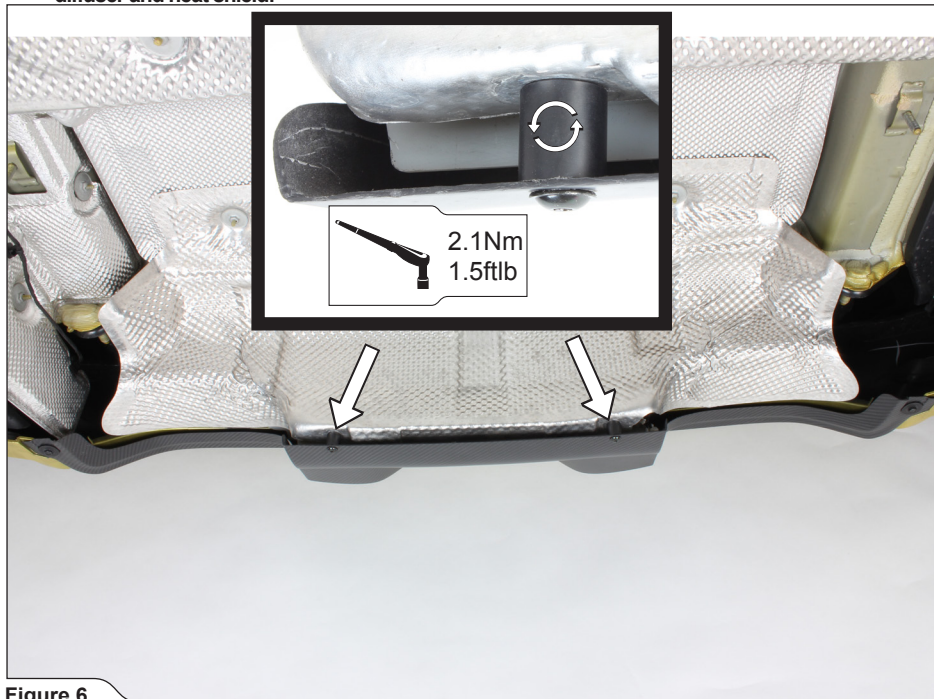

Figure 6
3. Tighten the middle part of the diffuser together with heat shield, using bolts and asymmetric spacers from Akrapovič installation kit (**Figure 6**).